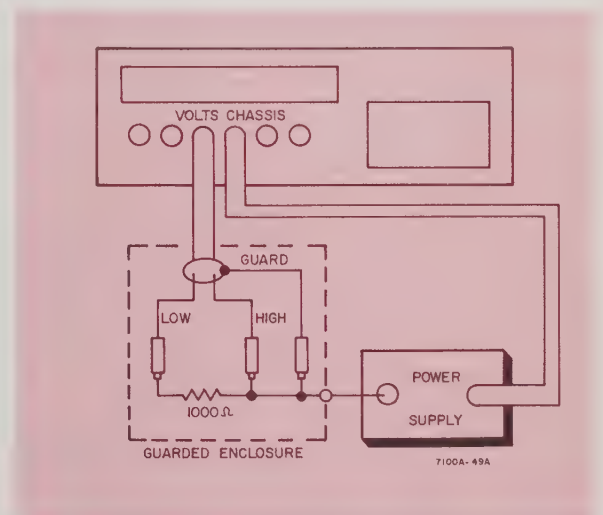

Figure 5-1. Test Set-Up DC Common Mode Rejection
- a. Connect test equipment as shown in figure 5-1.